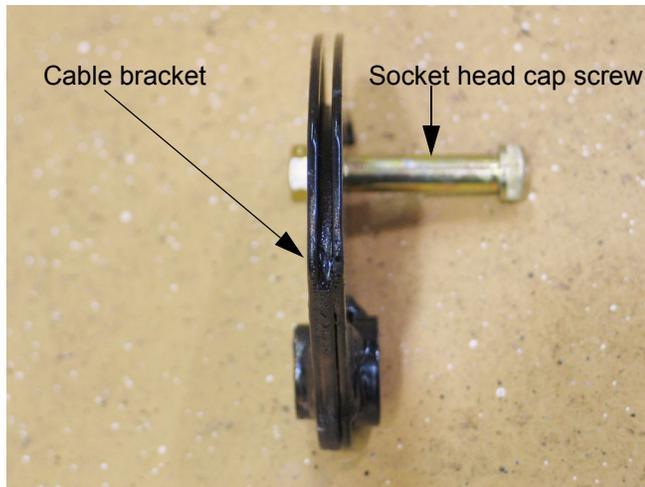

Figure 10.6
10.6. Orientation: on all four cable brackets, one side of the bushing shoulder is thicker than the other. The socket head cap screw always goes on the side with the thicker shoulder. See Figure 10.6.